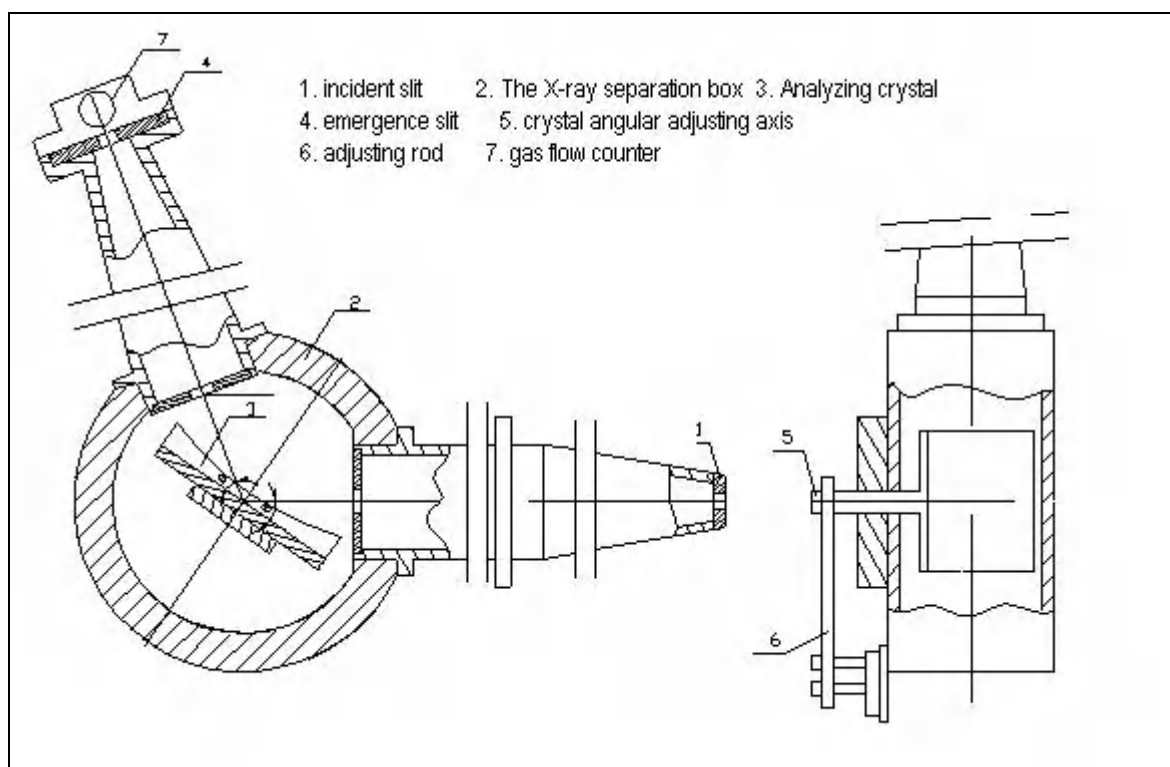

Figure 4-1B: the structure of the curved crystal
② Analyzing crystal: to diffract the characteristic X-ray of the interest element in θ angle while other X-rays of other wavelength either be absorbed or scattered in every direction. Therefore, the category of the analyzing crystal is determined by the wavelength of the characteristic X-ray of the interest elements in accordance with Bragg Law.
③ The X-ray separation box: it contains the analyzing crystal, and the detector is installed on the emergency hole. And the inter-parts are strictly sealed by the sealing devices so as to prevent the vacuum leakage.
④ Secondary collimator: there is a group of paralleled Mo plates, which comes into angle θ with the analyzing crystal and makes the characteristic x-ray of the interest elements to enter the detector with high passage rate while minimizing the x-ray of other wavelength scattered out on the crystal surface. Secondary collimator is fixed on the window of the detector, which uses the polyester film to separate with the detector and the work gas in the gas flow count can be leaked into the vacuum system to influence the vacuum degree. The mo plates of the secondary collimator functions as the support to the membrane, which won't suffer the damage in the work air pressure.
⑤ 、⑥ 5 and 6 are crystal angular adjusting axis and adjusting rod, which are used for precise adjustment of the crystal angle. They maximize the characteristic x-ray which enters the detector.
2. Figure 4-1B is the composition of the curved crystal. Na path and Mg path in WDX200 must be equipped with this kind of light splitter. The difference between this splitter and the flat one is as below: